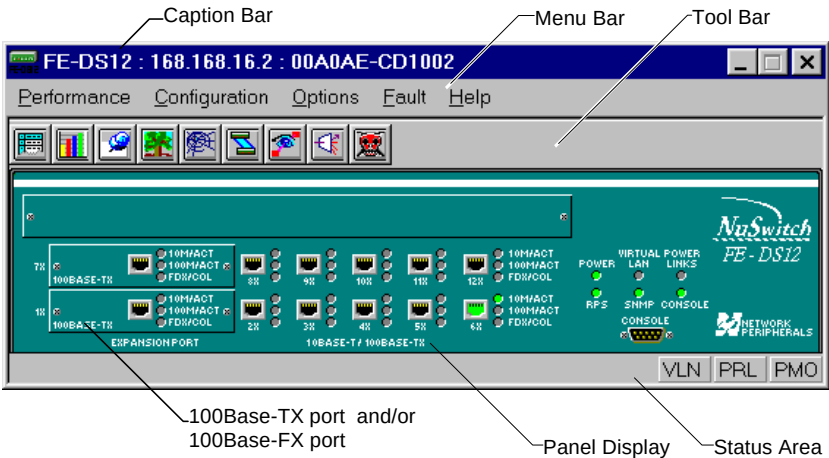

Figure 1. Device Window Showing FE-DS12 Front Panel
- Figure 1. Device Window Showing FE-DS12 Front Panel 3-2